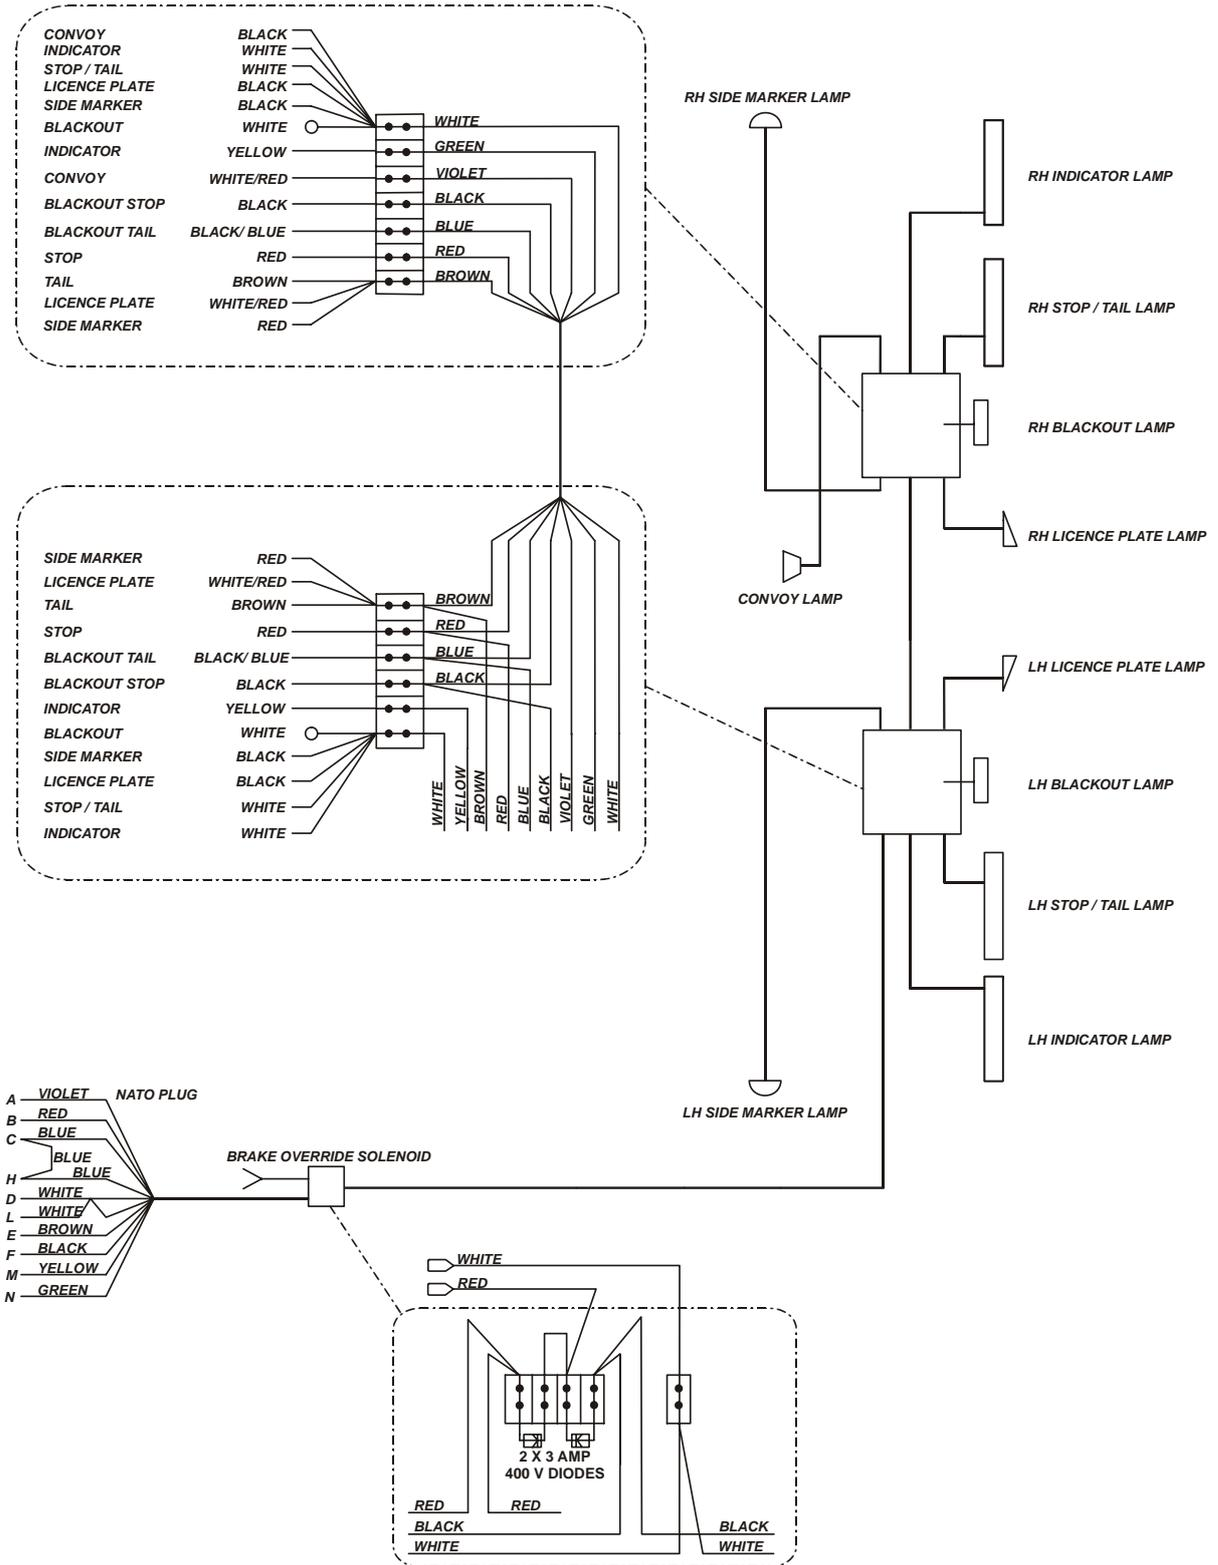

Figure 8 Electrical Wiring Diagram
32. The electrical system (Figure 8) is a 12 to 24-volt dc electrical system coupled to the towing vehicle's socket by a 12-pin NATO plug. All lighting connected to the electrical system is compatible with both 12-volt and 24-volt towing vehicles. The brake master cylinder has a solenoid fitted to lock out the trailer brakes unless the towing vehicle brake lights are activated.